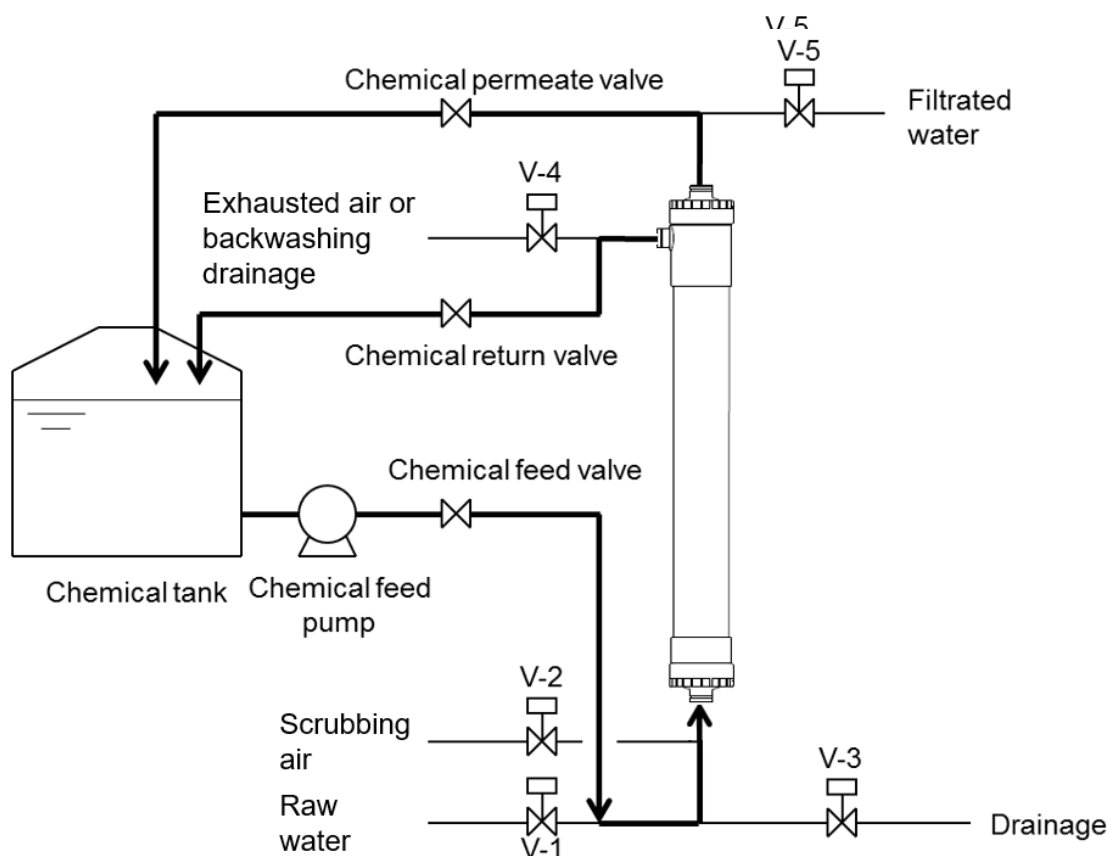

Fig. 9. Flow diagram for chemical cleaning
- (1) The flow diagram for cleaning simultaneously both outer surface and inside of hollow fiber membranes is shown in Fig. 9. The flow diagram can be changed case by case. Please contact us for further information if necessary.
- (2) Open the chemical return valve and then open the chemical feed valve.
- (3) Run the chemical feed pump to start for chemical circulation. Then, open the chemical permeate valve to let the chemical pass through the membrane.
- (4) Circulate the chemical for a fixed time.
- (5) Stop the chemical feed pump.
- (6) Drain the chemical and rinse the cleaning line and the module thoroughly with product water.